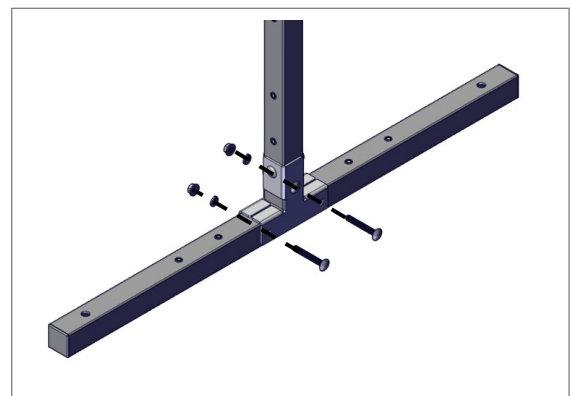

Fig. 5
3. Attach the Foot Assembly to the Vertical Leg Assembly using two (2) Carriage Bolts, two (2) Lock Washers, and two (2) Flange Nuts (Fig 5). Repeat this step on the other side.